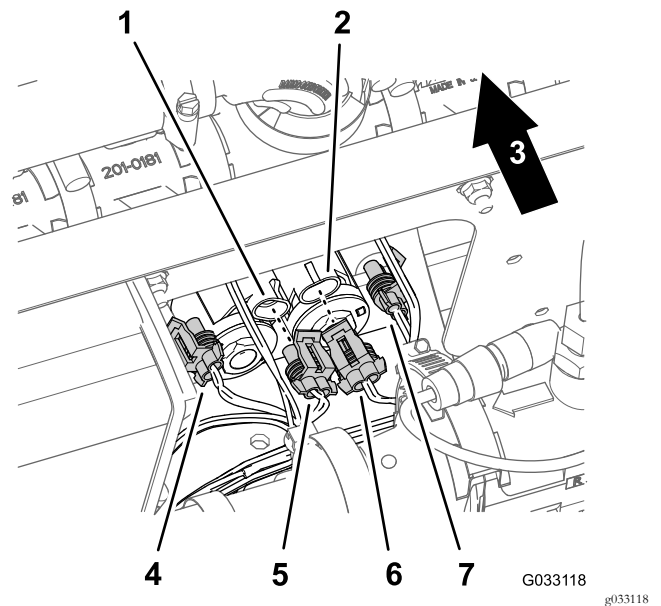

Figure 177
3. Disconnect the 2-socket connectors of the wire harness for the sonic boom finishing kit (Figure 177) from the 2-pin connectors of the solenoids of the lift-cylinder manifold as follows: